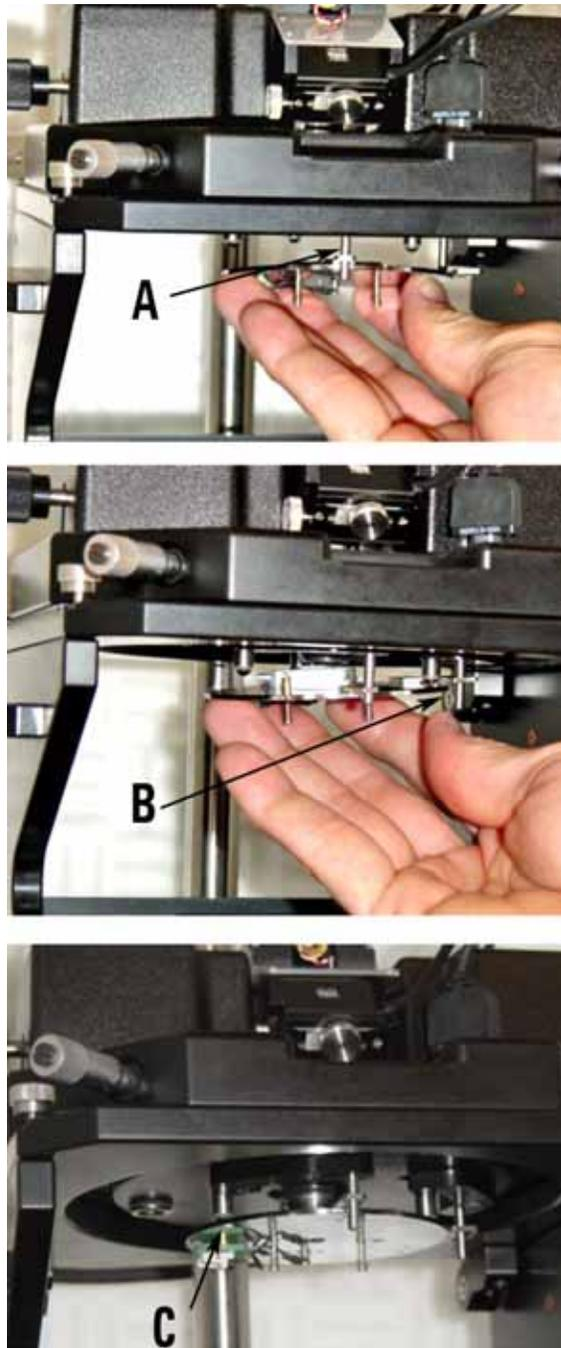

Figure 57 Mounting a sample plate.
- 2 Place the sample plate's front alignment tab over the front alignment pin, as in image A of Figure 57.
- 3 Place the second alignment tab over the alignment pin as in image B of Figure 57.
- 4 Let the magnets on the three posts gently engage the sample plate to hold it in place, as in image C of Figure 57.